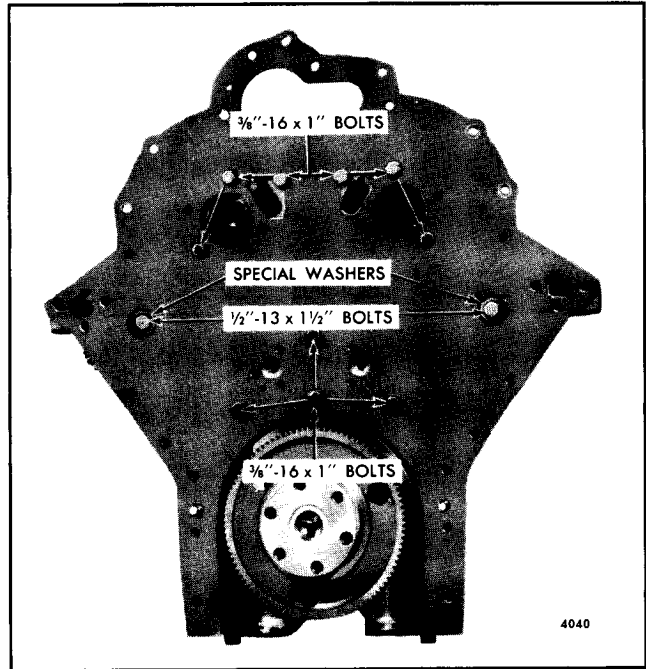

Fig. 3 - Cylinder Block Rear End Plate Mounting (V-Type Engine)
5. On a V-type engine, refer to Fig. 3 for the location and install the 3/8"-16 x 1" bolts with lock washers. Also, install the two special washers and two 1/2"-13 x 1-1/2" bolts as shown when the fuel pump is driven off the camshaft, or one special washer and bolt when the fuel pump is driven by the accessory gear. Tighten the 3/8"-16 bolts to 30-35 lb-ft (41-47 Nm) torque and the 1/2"-13 bolts to 71-75 lb-ft (96-102 Nm) torque.